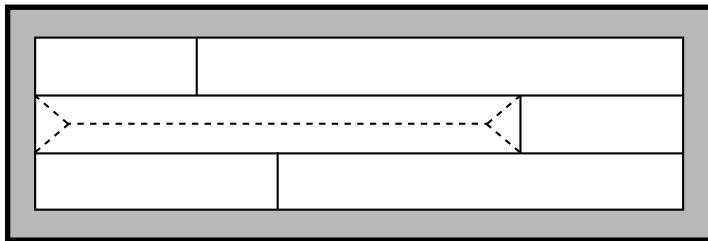

Figure 9
- Make diagonal cuts from the corner of the plank back to the center cut. (See figure 9.)